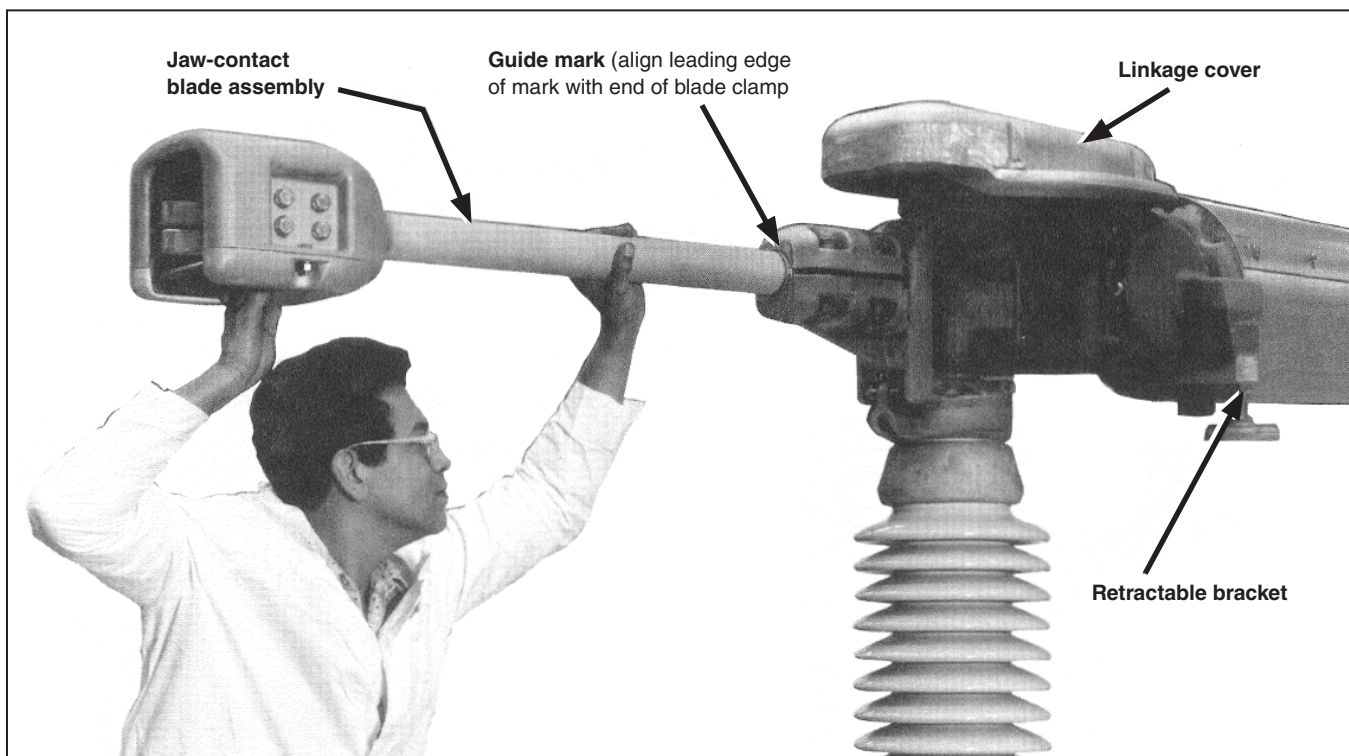

Figure 15. Inserting the jaw-contact blade assembly at brain end (1600 ampere rating shown.)
STEP 17. Remove the gauge pipe by removing the blade clamps. Replace these blade clamps, and then replace the jaw-contact blade assembly in the brain-end blade-hinge assembly from which it was removed. Insert the blade assembly into the blade clamp until the leading edge of the guide mark is in line with the end of the blade clamp. Tighten the clamp securely. See Figure 15.
After the insulated operating shaft has been installed, fully disengage the retractable bracket which secures the shunt-trip operating shaft extending from each brain, as shown in Figure 15 on page 18.